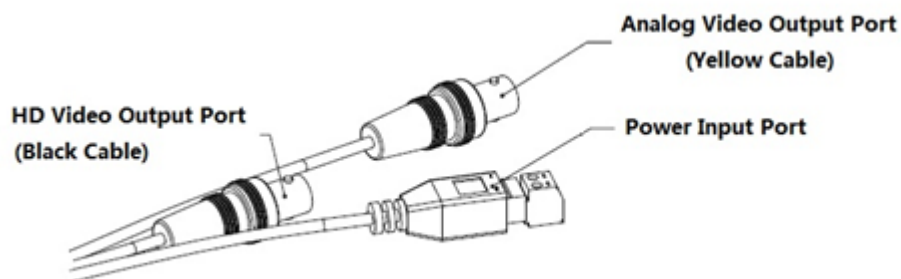

Figure 2-13
See Figure 2-13 for the dual power cable.
**Note:** Camera models with dual power use the cable structure shown in Figure 2-13; the power input port supports DC12V/AC24V power supply.